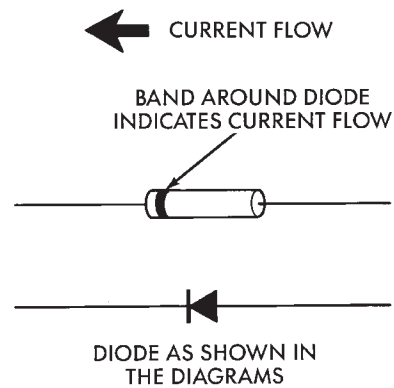

Fig. 19 Diode Identification
- (1) Disconnect the battery.
- (2) Locate the diode in the harness, and remove the protective covering.
- (3) Remove the diode from the harness, pay attention to the current flow direction (Fig. 19).